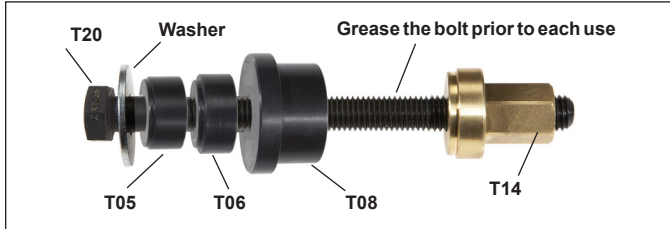
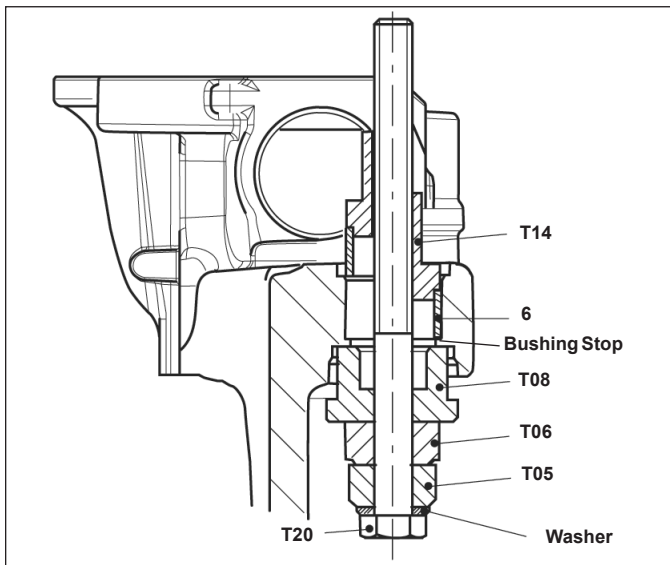

Figure 79 – Short Guide Pin Bushing Installation Tool
Figure 80 – Guide Pin Bushing Installation
4.6.27 Use the tool combination shown in *Figure 79* to draw the bushing (6) into the caliper. Also see *Figure 80*, to see the orientation (with tool T14 at the top). Hand tighten the nut (T14) into position. Then tighten the bolt (T20) using a box end wrench or socket to draw the bushing (6) into the caliper until the bushing (6) contacts the machined step in the bore. Remove the tool.